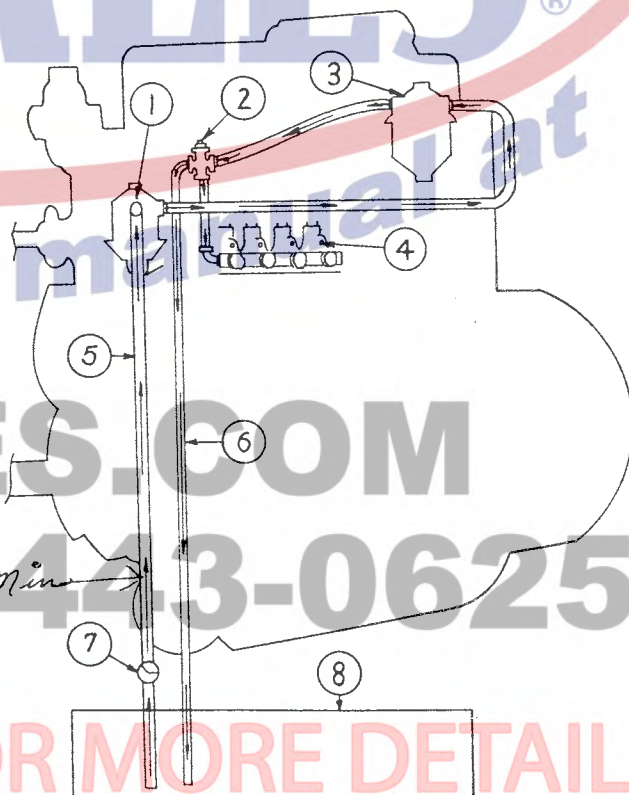

Figure 3A — Fuel Supply Piping, Fuel Transfer Pump
2. FUEL TRANSFER PUMP—The fuel piping is illustrated in (Fig. 3A). The diaphragm type fuel transfer pump is mounted on the drive end of the fuel pump and governor assembly. It is driven by means of a pushrod and cam follower, which rides a cam on the fuel pump outer shaft. This pump con-